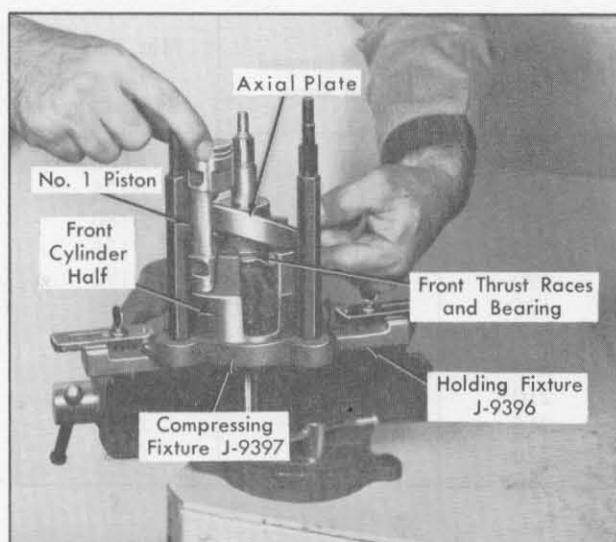

Fig. 1-86 Installing Piston
10. Position piston over #1 cylinder bore (notched end of piston on bottom and piston straddling axial plate) and lower the shaft to allow piston to drop into its bore, Fig. 1-86.